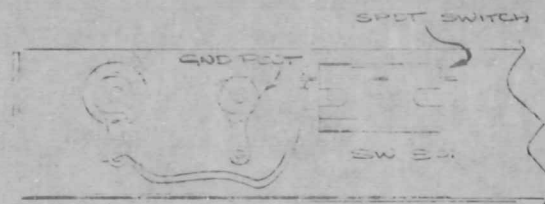

Fig. 5
- () 30. Dress the other end of this wire through the same grommet that the white wire soldered to R840 (68k 2w resistor) is dressed through. Thread the wire through the bottom hole of the 3-hole post (step 24); through the top hole of the 2-hole post (step 26 or 27), and solder it to the right-hand terminal of the switch mounted in step 4 (see Fig.5).